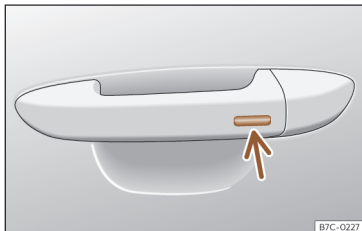

Fig. 86 Door handle: sensor surface.
- Press and hold the locking sensor surface >>> **Fig. 86** (arrow) on the door handle to close the sunroof. If you release the sensor surface, the closing movement stops.